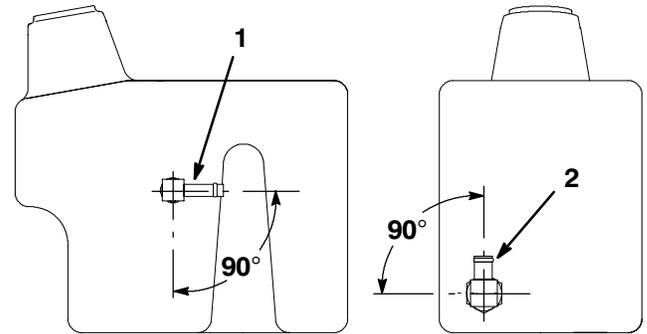

Figure 7
1. Thread new 3/4" 90° fitting and 7/8" 90° fitting in new hydraulic tank and position as shown in Figure 7.